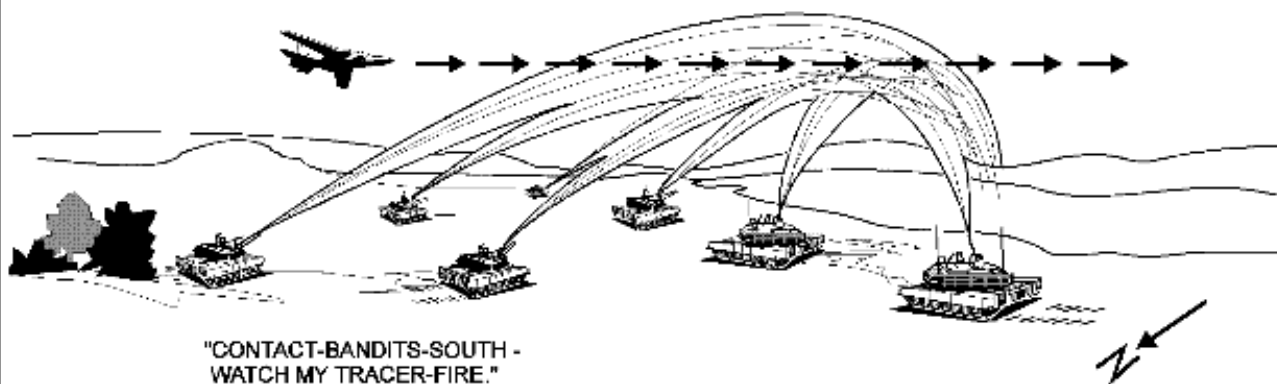

Figure 6-4. Machine gun aim points against helicopters and high-performance aircraft.
- **Step 1 - Initiate fires.** The primary intent is to force aircraft to take self-defense measures that alter their attack profile and reduce their effectiveness. Leaders may use a tracer burst to designate an aim point for machine gun antiaircraft fires (see Figure 6-4). Volume is the key to effectiveness; tanks and BFVs throw up a "wall of steel" through which aircraft must fly. Effective in company team air defense employment are the tank main gun and TOW and Javelin missiles against hovering attack helicopters, the tank main gun and BFV 25-mm cannon against moving helicopters, and the tank main gun MPAT round against high-performance aircraft.